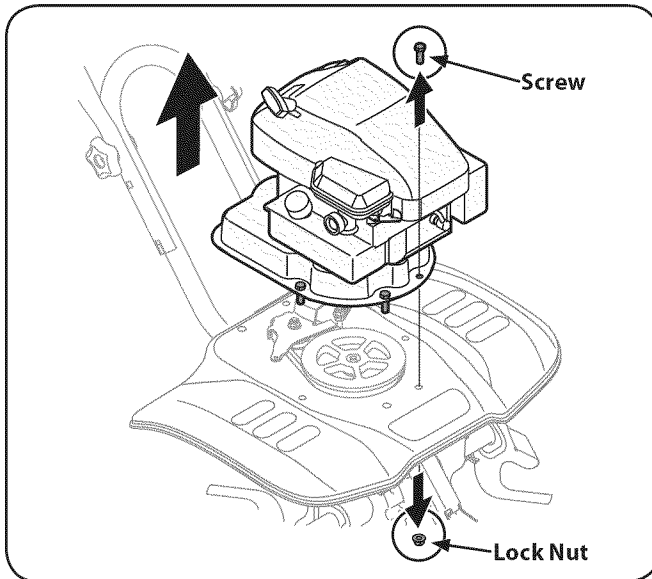

Figure 1-1
1. Remove the engine by removing the six screws and lock nuts holding the engine and cover to the shield. See Figure 1-1.